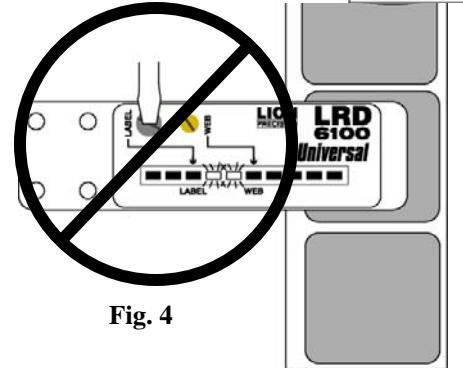

Fig. 4
- **NO** lights between LABEL and WEB are on anytime while the label is under the sensor (Fig. 4). These should only be on briefly while the sensor changes from label to web.